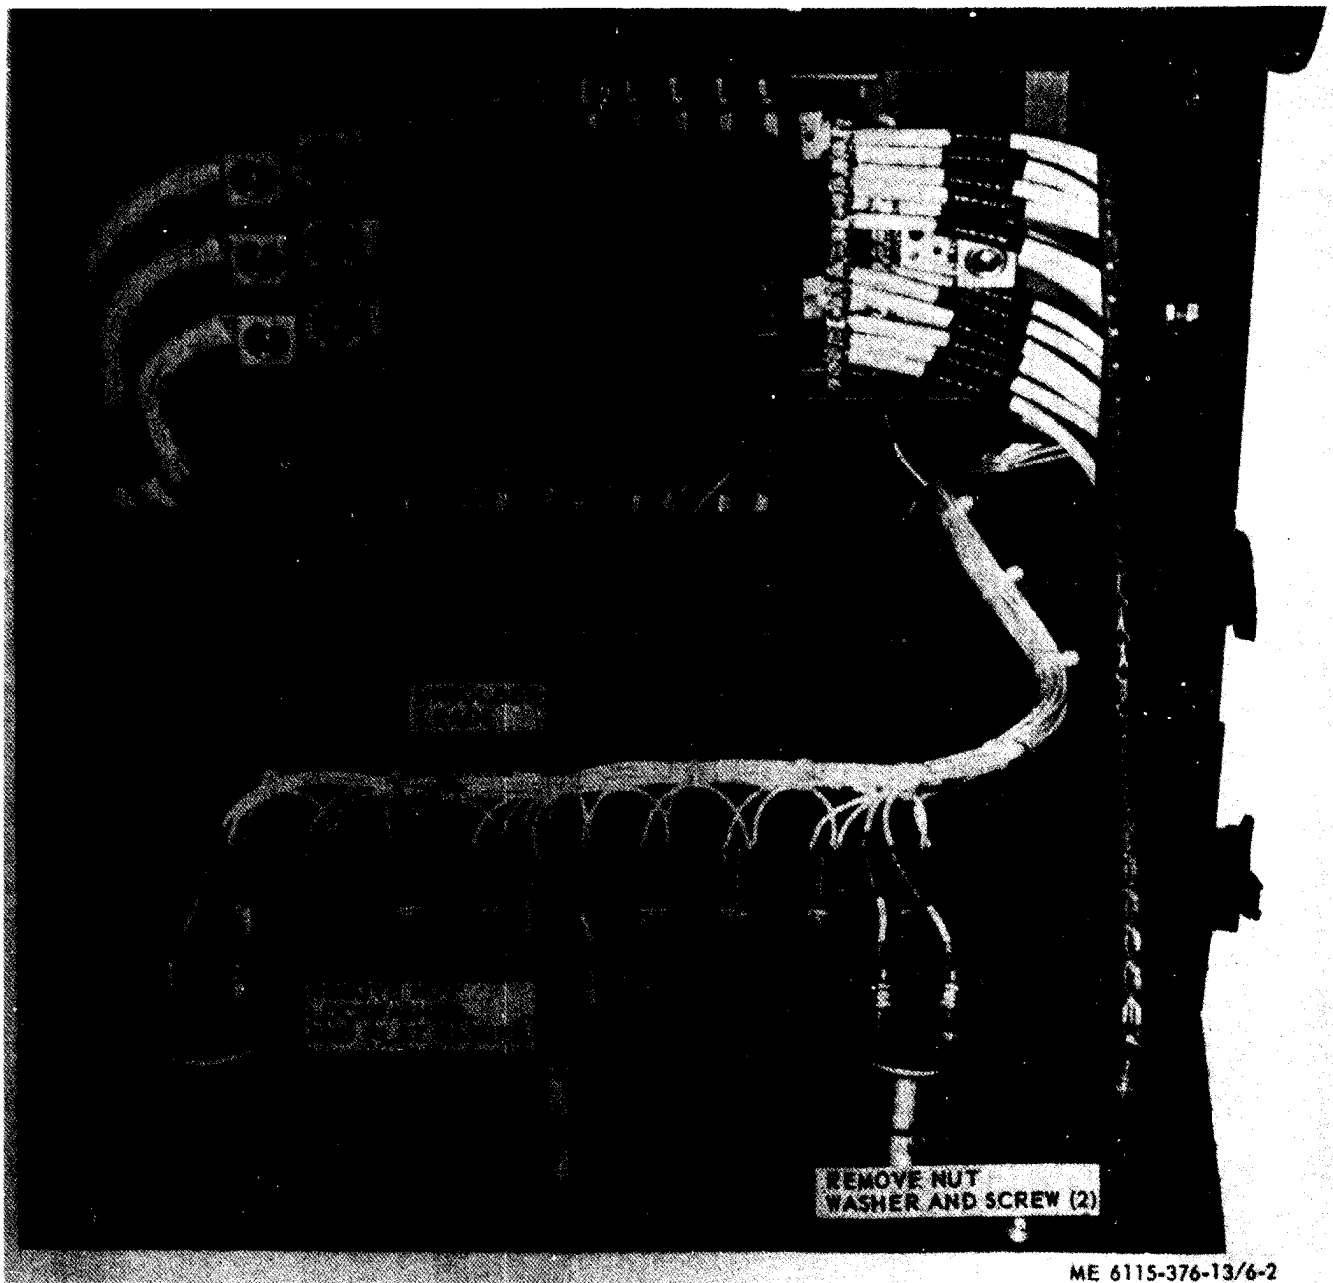

Figure 6-2. Lamp socket assemblies and chain removal and installation (distribution box, all units).
(1) Open distribution panel (a(2) above).
(2) Unsolder all leads of the defective socket assembly (open laced cable if necessary).
(3) Unscrew lens from face of panel, remove lens and bayonet-type bulb, and unscrew threaded collar holding socket to face of panel, and remove collar.
(4) Unscrew and remove nut, lockwasher and flatwasher from back side of panel, and remove defective lamp socket assembly.
(5) Place replacement lamp socket assembly in panel; screw on threaded collar on face of panel, and flatwasher, lockwasher and nut to back of panel, draw nut up securely. Solder leads in same order as removed; add bulb and lens to face of panel (fig. 6-2).
(1) Prop cover in open position and open distribution panel (fig. 6-2 and 6-3).
(3) Remove nuts and washers and pull lamp socket assemblies from panel. Also pull ammeters from panel, Allow ammeters and lamp sockets to hang gently from wiring harness.
(4) Remove attaching hardware from chain (fig. 6-2), and remove attaching hardware from bottom of panel (fig. 6-3). Remove panel.